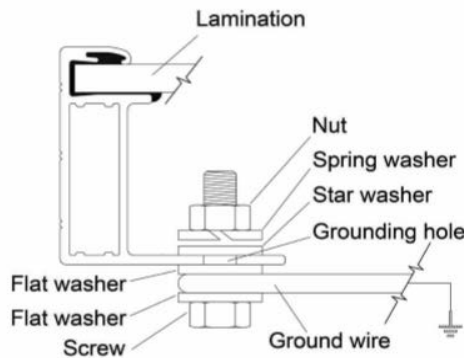

figure 1
- Use M4 bolt and washers to bond the ground wire and aluminum frame through the grounding holes (as shown figure 1). The tightening torque is 3-7N.m. All nuts and washers should be made of stainless steel.
Mounting Method: Bolting**Figure 1 O-A**